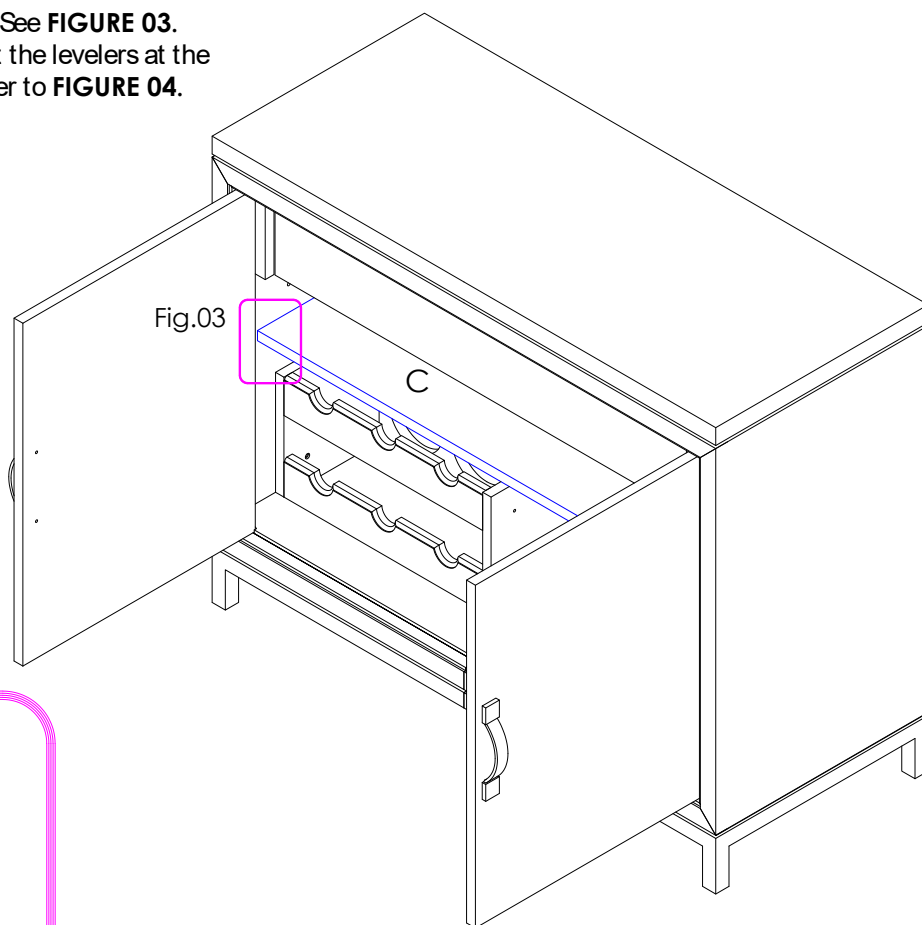

FIGURE 03
3. Install the shelf holders (4) and place the shelf panels (C) on the shelf holders. Fix the shelf panels to the shelf holders by using screws (5) provided. See **FIGURE 03**.